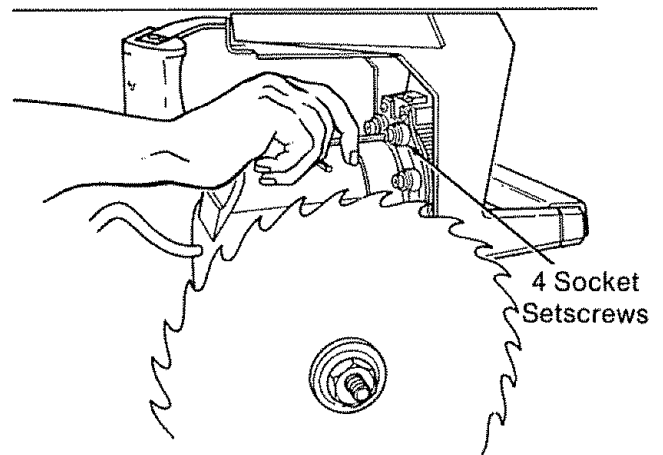

Fig. 74
7. Loosen the four screws behind the *yoke* using a 1/8 inch hex-L wrench. (Figure 74)